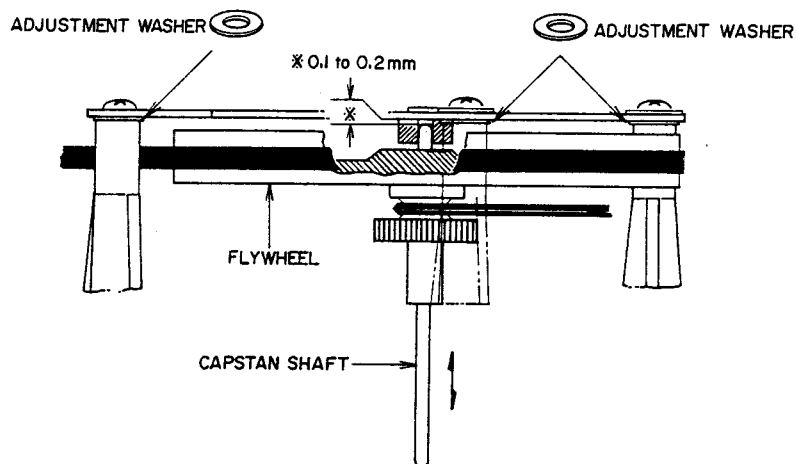

Fig. 10
2. FLYWHEEL LOOSE PLAY ADJUSTMENT (Refer to Fig. 10)